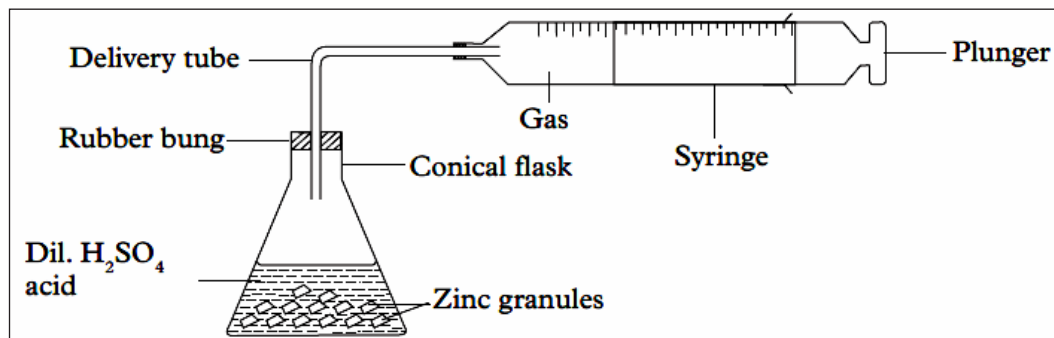

Figure 13.4: Reaction of zinc and hydrochloric acid
2. Add 5 mL of dilute sulphuric acid to conical flask **A**. Measure the amount of produced gas as shown in figure 13.4.
5. Add 5 mL of dilute sulphuric acid to conical flask **C**. Add about 1 mL of copper (II) sulphate solution using a dropping pipette. Quickly insert the cork with one-hole fitted with a delivery tube. Measure the amount of produced gas as in procedure 2 above.